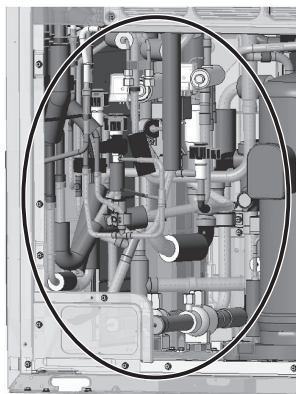

Figure 6-1
- (6) Remove the coils, coil covers, pipe covers, and adjacent wirings of the four-way valves, solenoid valves, and LEVs. (See Figures 6-1 through 6-3.)